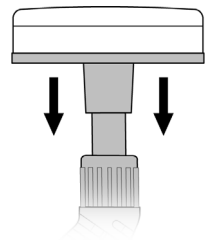

FIGURE 4
2. Press down on blue lock/release button (FIGURE 4-A). While continuing to hold button down, slide accessory onto Steam Nozzle (FIGURE 4-B). Push accessory over button, and continue pushing until button snaps through rectangular hole.
1. Place Scrub Pad over tip of Jet Nozzle, and firmly press it on to Jet Nozzle as far as possible (FIGURE 4). This will help to prevent steam leakage.